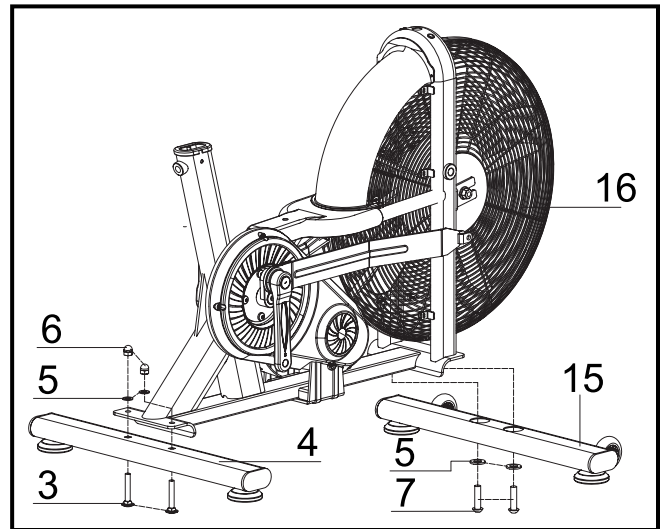

Fig. 1
STEP 1: Attaching the Stabilizers (FIG. 1):